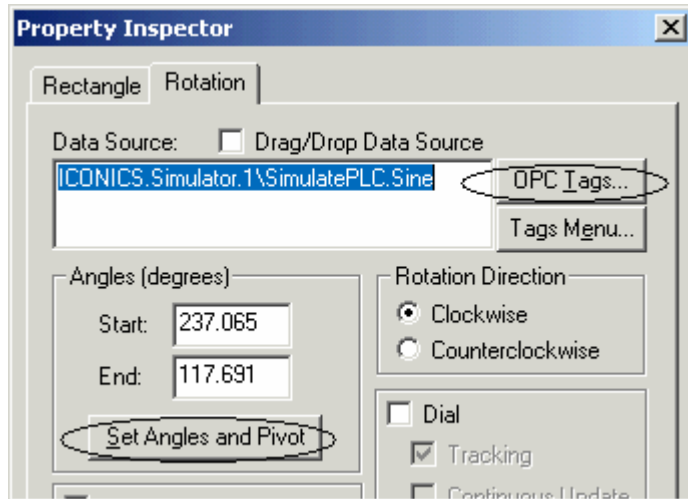

Figure 5.20. Setting up a Rotation Dynamic
3. The **Property Inspector** for the **Rotation/Dial** dynamic will appear, as shown in **Figure 5.20**. Note that the **Rectangle** tab refers to the visible object to which this dynamic is attached. Setting up the rotation dynamic is a simple process: